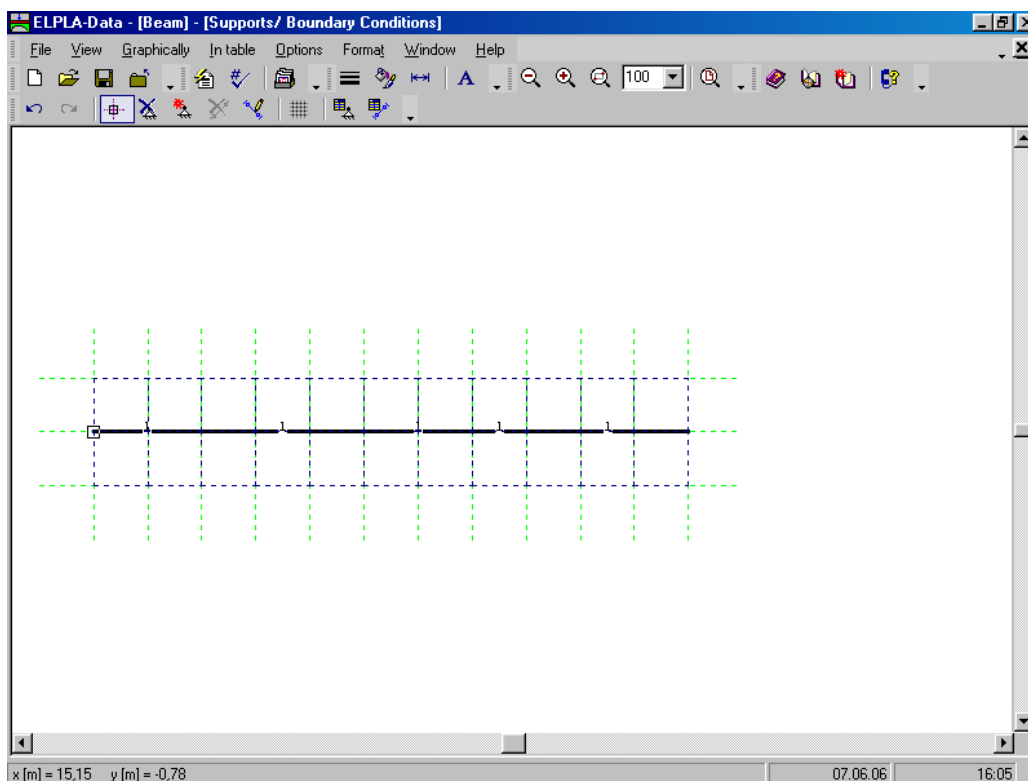

Figure 8-21 Selection of fixed support node
- Click the left mouse button on nodes that have the fixed supports as shown in Figure 8-21
- Choose "Add boundaries" command from "Graphically" menu in Figure 8-21